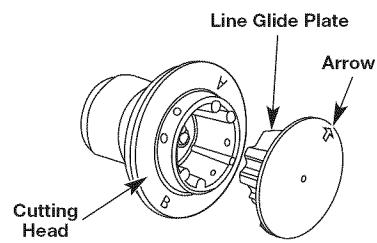

Fig. 21
3. Reinstall line glide plate (Fig. 21). Align arrow with: "A" when using medium (red) or large (black) line, or "B" when using lines with diameters smaller than medium (red) line.